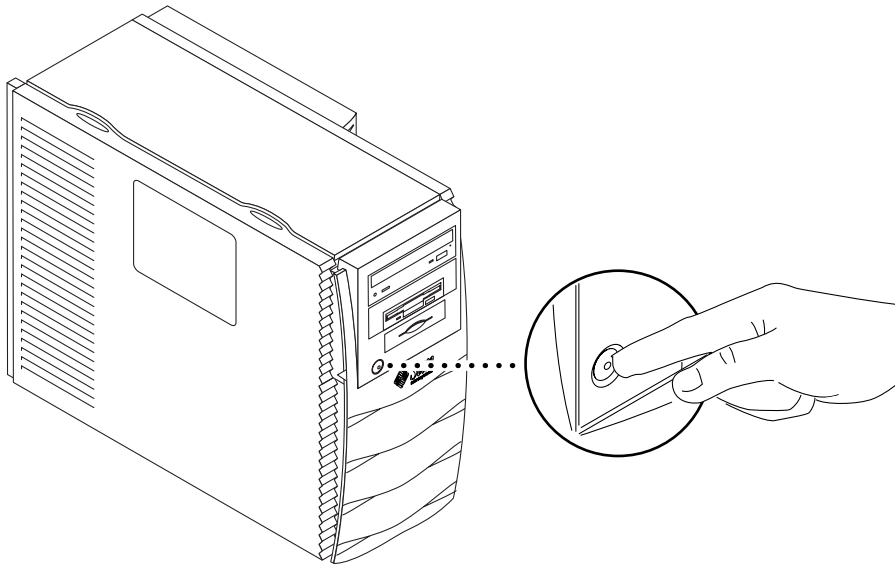

FIGURE 5-1 System Power Switch
- i. **Press and release the front panel Power switch (FIGURE 5-1) to automatically shut down all programs, the operating system, and to power off the system.**
- i. **Press the front panel Power switch (FIGURE 5-1) to power off the system.**
- c. If the system is at the “ok” prompt (OpenBoot interface) press and hold the front panel Power switch for four seconds (see FIGURE 5-1) to power off the system.